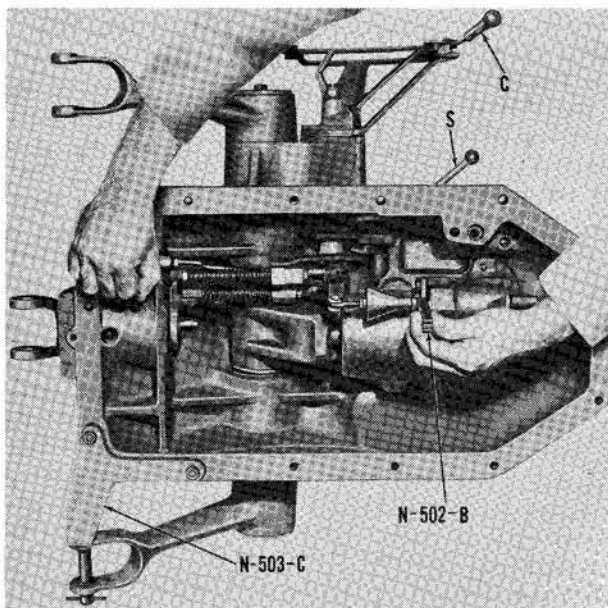
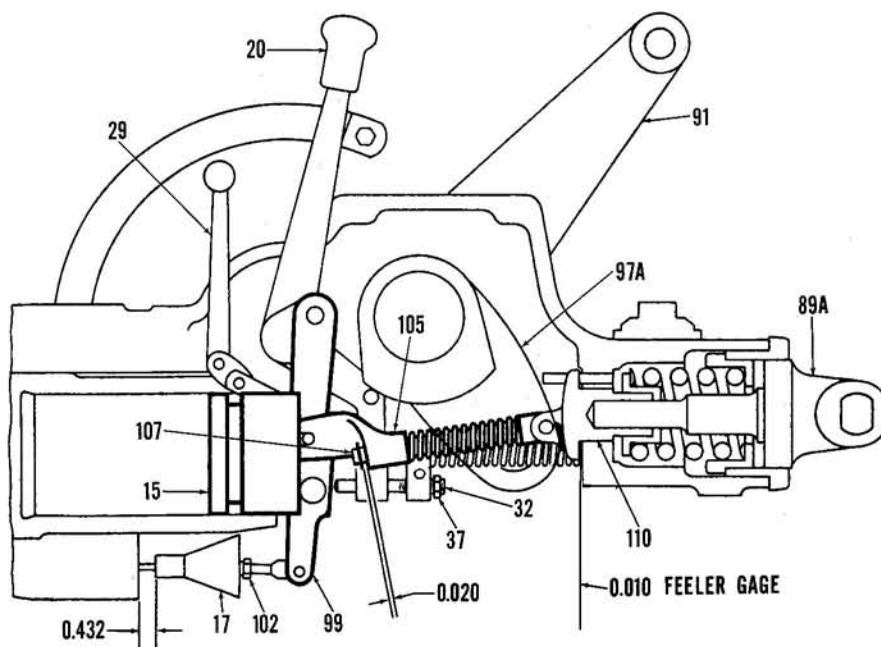

Fig. 199 — Adjusting model "FSM" position control linkage. Refer to text.
Fig. 203—Drawing showing linkage adjustment points for model "New FSM". Refer to text for procedure.
With lift arms positioned as in paragraph 251, move control lever to bottom of quadrant and selector lever to position control; refer to Fig. 199. Using large (position control) end of adjustment gage (Nuday tool No. N-502-B), measure gap between shoulder of control valve spool and machined face of valve housing. If gage binds or fits loosely, refer to Fig. 210 and loosen jam nut (37) on position control adjustment screw (32), then turn screw in or out until gage fits without binding or side clearance. Recheck adjustment after tightening jam nut.
**256. ADJUST DRAFT CONTROL LINKAGE.** To adjust draft control linkage, remove lift cover assembly as outlined in paragraph 261, refer to Fig. 203 and proceed as follows:
Refer to Fig. 199 and position lift arms with locating arm (Nuday tool No. N-503-B) or, if tool is not available, move lift arms until piston contacts front end of cylinder, move lift arms back up  $\frac{1}{2}$ -inch from this position and tighten cap screws in each end of lift arm shaft to hold arms in this position. Move control lever to bottom of quadrant and selector lever to position control. Turn position control rod screw (32—Fig. 203) as necessary to obtain a gap of 0.432 between shoulder on control valve spool (17) and face of valve housing. Tighten jam nut (37) and recheck adjustment. If special adjustment gage (Nuday tool No. N-502-B) is available, use thick (position control) end to check gap between valve spool shoulder and housing.
Fig. 210—Exploded view of model "FSM" lift cover assembly. Refer to Fig. 211 for exploded view of lift cylinder (11A). Refer to Fig. 203 for model "New FSM" linkage. Figs. 196 and 209 show production changes in pressure relief valve and check valve seats applicable to both models "FSM" and "New FSM."